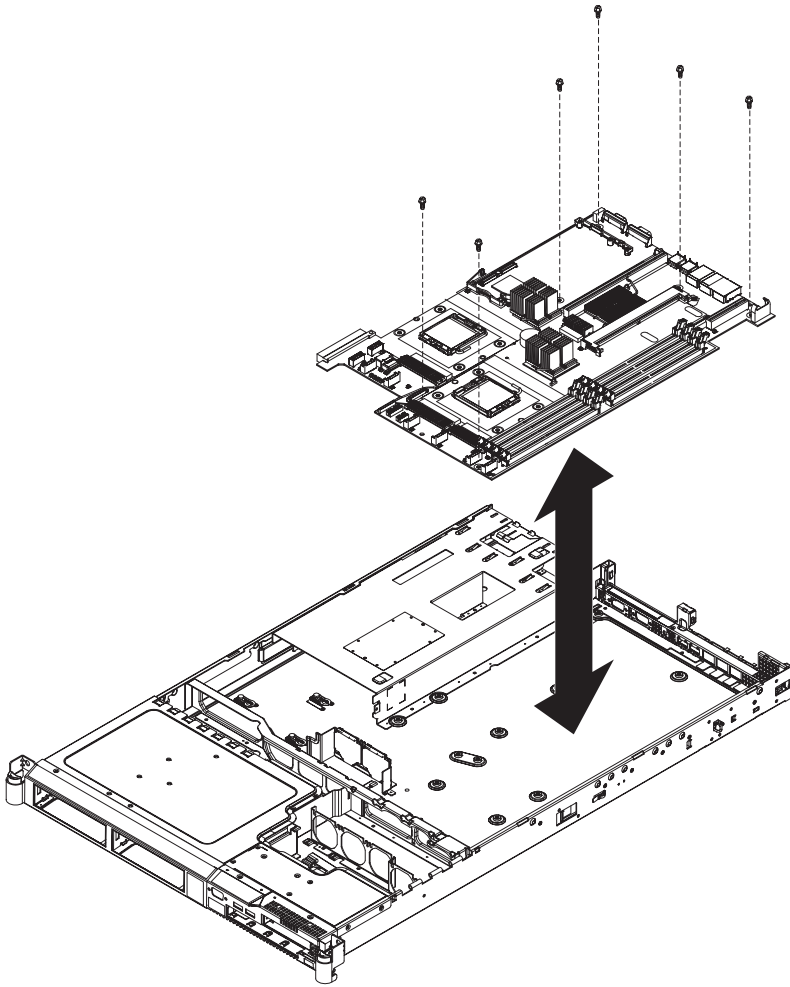

Figure 295. The placement of the screws that secure the SAN Volume Controller 2145-8G4 system board
2. Replace the six screws on the system board, as shown in Figure 295 on page 296, to secure the system board to the chassis.